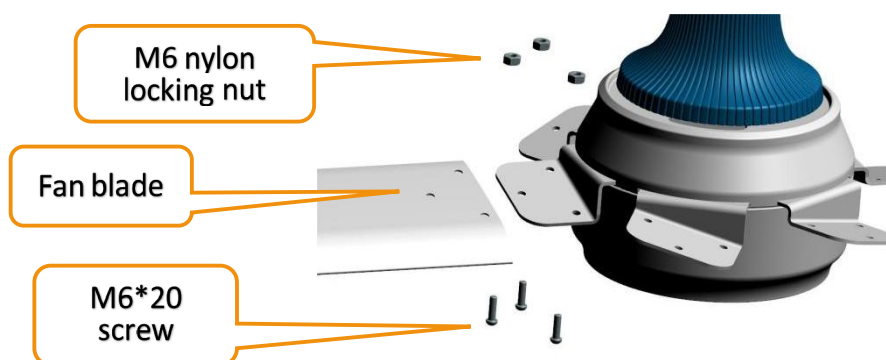

Figure. 5
- ① Pull out the black fan plug at the front end of the fan blade, insert the blade with the blade holder on the motor, align their installation holes. Then use three M6*20 hexagonal bolts, flat washers, spring washers, and M6 nylon locking nuts to tighten the blades (attention: the head of the screws must facing downward for installation, see Figure 5)
- ② Use the principle of symmetrical installation, install all remaining fan blades